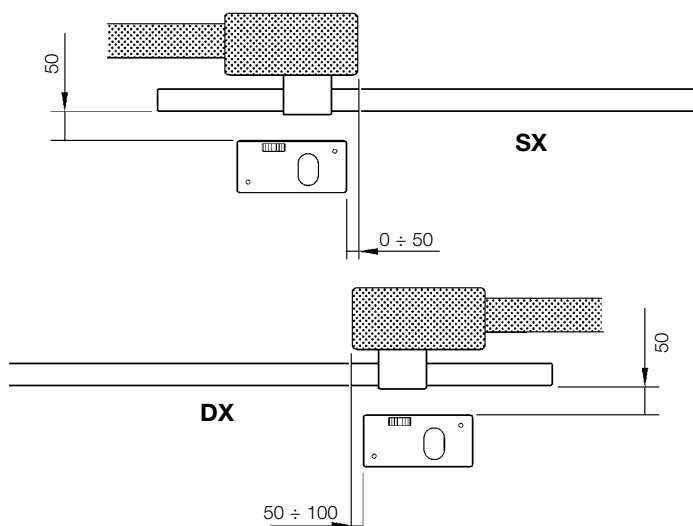
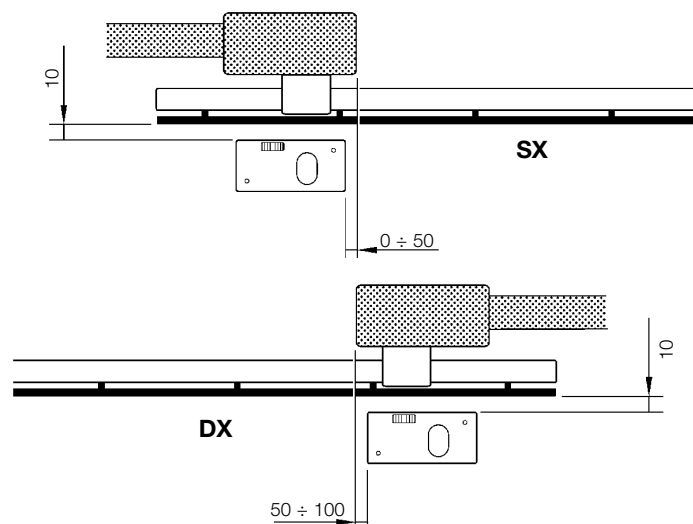

Figure 11
Figure 12
- Both with the gearmotor mounted to the left "LT" and to the right "RT", the distances indicated in figure 11 (gate without rack) or figure 12 (gate with rack) must be respected.
1 Dig the foundations according to the "Preliminary checks" paragraph and in particular the distances indicated in figure 11 on page 10.
4 Position the foundation plate making sure that the grooved side (indicating the position of the pinion) faces the gate observing the distances shown in figure 11.
1 Dig the foundations according to the "Preliminary checks" paragraph and in particular the distances indicated in figure 11 on page 7. Make sure the foundation plate is 77 mm from the rack, see figure 15.